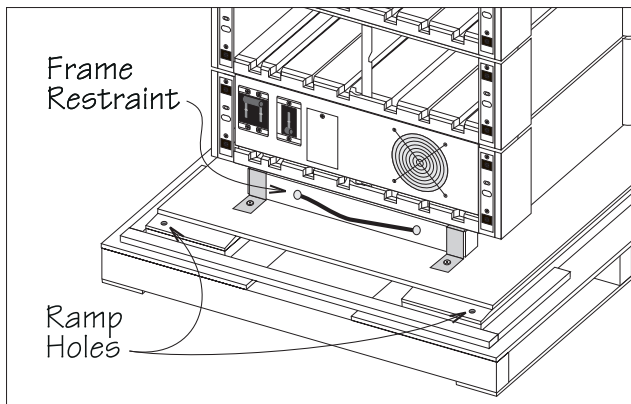

Fig 3-2 Frame Restraint and Ramp Holes
2. **Remove Two Pallet Restraint Screws** - See Figure 3-2. Remove the two phillips-head, pallet restraint screws. Use the cloth handle to remove the frame restraint from the pallet. Place the frame restraint and two screws to one side.